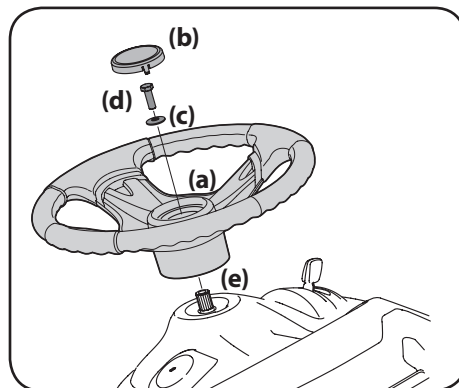

Figure 2-4
3. Place the cupped washer (c) -- cupped side down -- over the steering wheel (a) and secure with the hex bolt (d). See Figure 2-4.